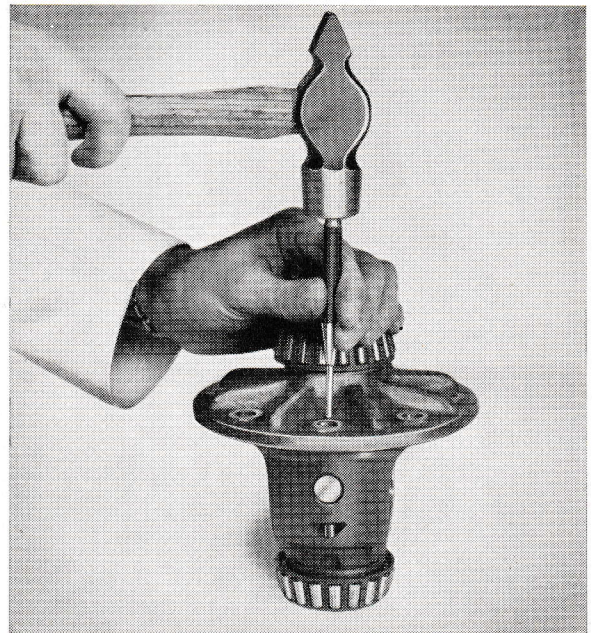

Fig. 26. Removing the lock pin.
1. Loosen the bolts (38) and remove the crown wheel (15).
2. Drive out the lock pin (27), see Fig. 26 and then the differential gear shaft (28). Take out the spacer block (29). Remove the gears (33, 36) and the thrust washers (34, 37).